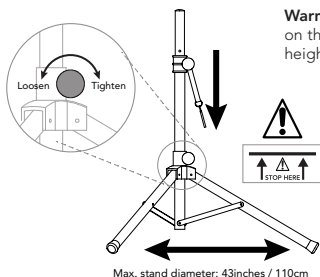

Figure 1.
2. Loosen the lower of the two large thumbscrews and spread the tripod legs. Follow the height warnings printed on the stand for safe operation (Figure 1). Setting the height outside this area is forbidden. Tighten the thumbscrew before placing the SA330x on the stand.